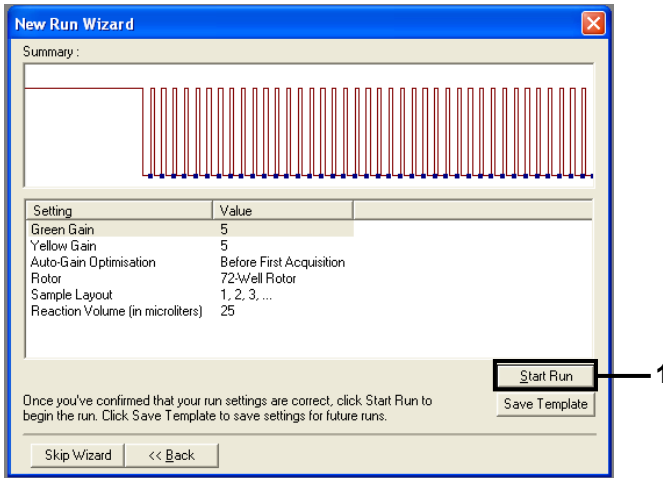

Figure 17. The "New Run Wizard" dialog box and summary screen. (1 = "Start Run")
16. Check the summary and click **Start Run** to save the run file and start the run (Figure 17).